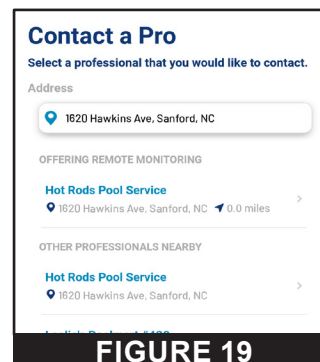

FIGURE 19
1. At the ChemCheck Dashboard, press the Settings icon (1).
4. The Contact a Pro screen will display, showing a list of local pool professionals offering remote monitoring. See **Figure 19**.